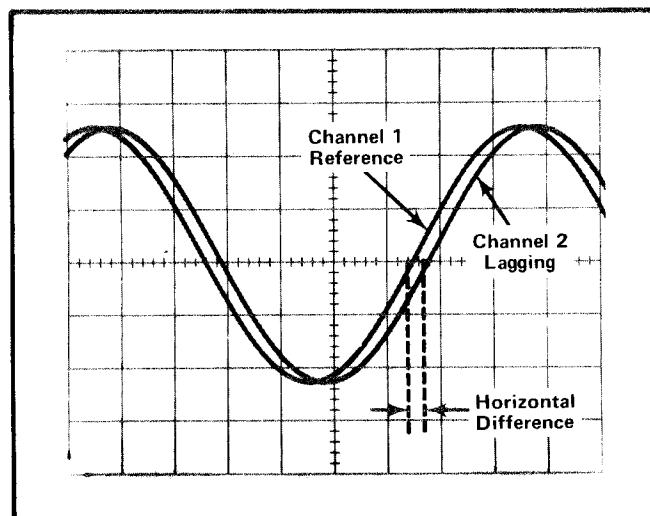
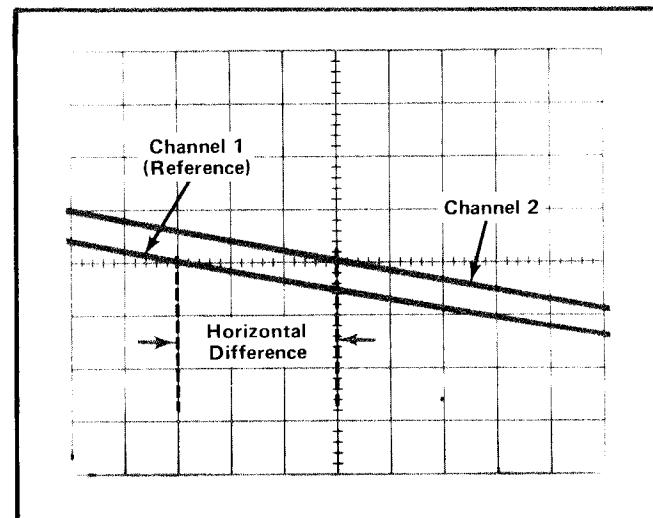

Fig. 1-6. Measuring phase difference between two signals.
Fig. 1-7. High resolution phase measurement using time-base magnifier.
8. Adjust the time-base Variable Time/Div control until one cycle of the reference signal occupies exactly eight horizontal divisions between the second and tenth vertical lines of the graticule (see Fig. 1-6). Each division of the graticule represents 45° of the cycle ($360^\circ \div 8$ divisions = 45° /division). The sweep rate can now be stated in terms of degrees as 45° /division.
EXAMPLE: Assume a horizontal difference of 0.3 division with a sweep rate of 45° /division as shown in Fig. 1-6.
EXAMPLE: If the sweep rate is increased 10 times by the Magnifier, the magnified sweep rate is $45^\circ/\text{division} \div 10 = 4.5^\circ/\text{division}$. Fig. 1-7 shows the same signals as used in Fig. 1-6 but with the Magnifier set to X10. With a horizontal difference of 3 divisions, the phase difference is: